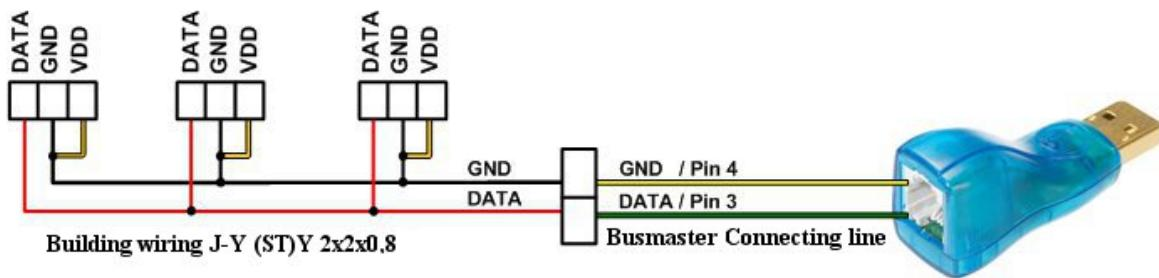

Figure 3: Installation variant 1-Wire sensors with "Parasitic Power"
- Connect 24 V DC to the terminal for the SO pulse input power supply (**Figure 3, 5**). No 230V!
- Connect SO pulse input devices to the SO pulse input terminals as follows (**Figure 3, 4**).